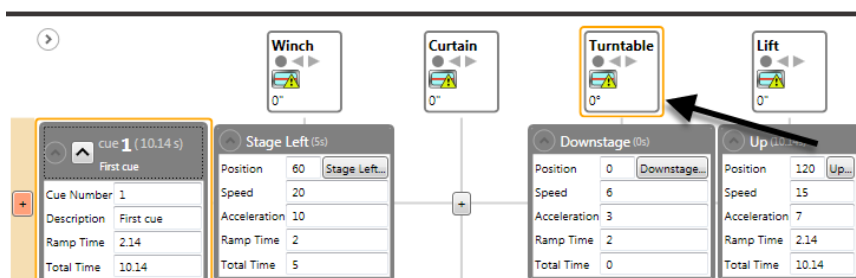

Figure 232
3. Select the motor to which you wish to add a Spike (Figure 232).